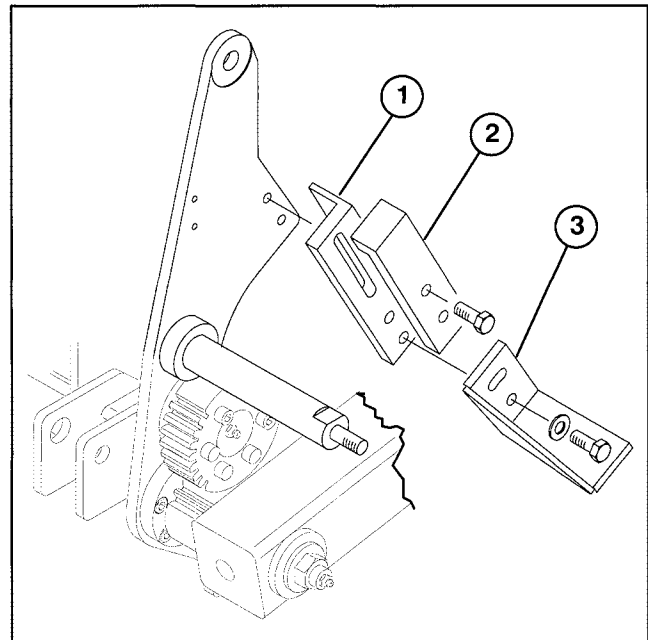

**Figure 3**
6. Coat (2) O–ring seals with grease. Slide a O–ring seal and a trailing arm onto each appropriate trailing arm shaft (Fig. 3). Trailing arms to be in raised position when engaging with quadrant gear. Gear teeth must be centered with each other for full travel in quadrant. Secure each arm to shaft with another O–ring seal, a 1" washer and 1"–12 locknut.